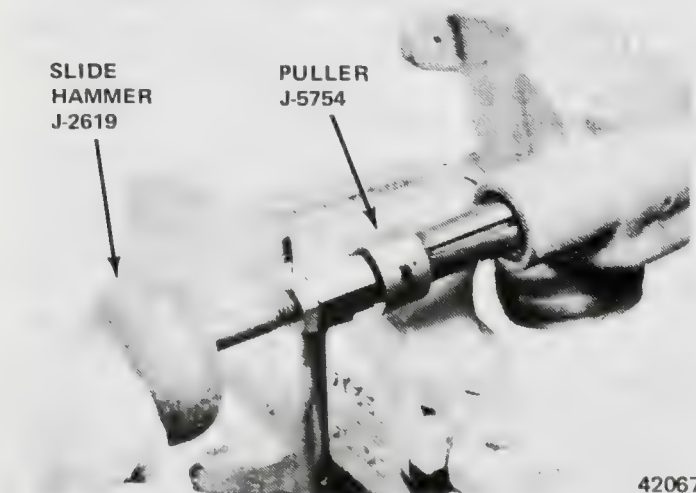

Fig. 2J-5 Pitman Shaft Bushing Removal
(12) Remove pitman shaft and wormshaft seals using screwdriver. Discard seal. Do not damage housing bore.
(13) Thread adjuster into housing with wormshaft lower bearing facing outward.
(14) Remove wormshaft lower bearing retainer from adjuster. Use screwdriver to pry retainer out of adjuster.
(15) Remove wormshaft lower bearing seat from adjuster using Puller J-5754, or J-5582 and Slide Hammer J-2619. Remove adjuster from housing (fig. 2J-7).
(16) Remove pitman shaft bushing using Puller J-5754 and Slide Hammer J-2619 (fig. 2J-5).
(17) Remove wormshaft upper bearing seat from housing using Puller J-5754 and slide hammer J-2619 (fig. 2J-6).
(18) Remove lower bearing seat from worm bearing adjuster using Puller J-5754 and Slide Hammer J-2619 (fig. 2J-7).